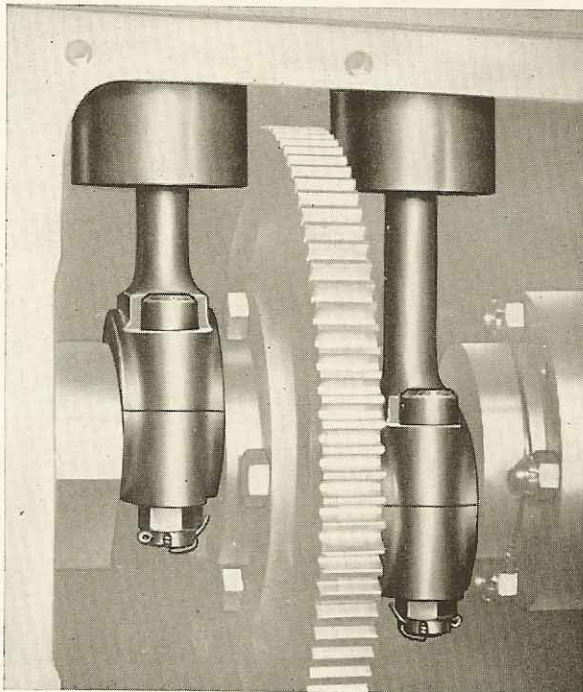
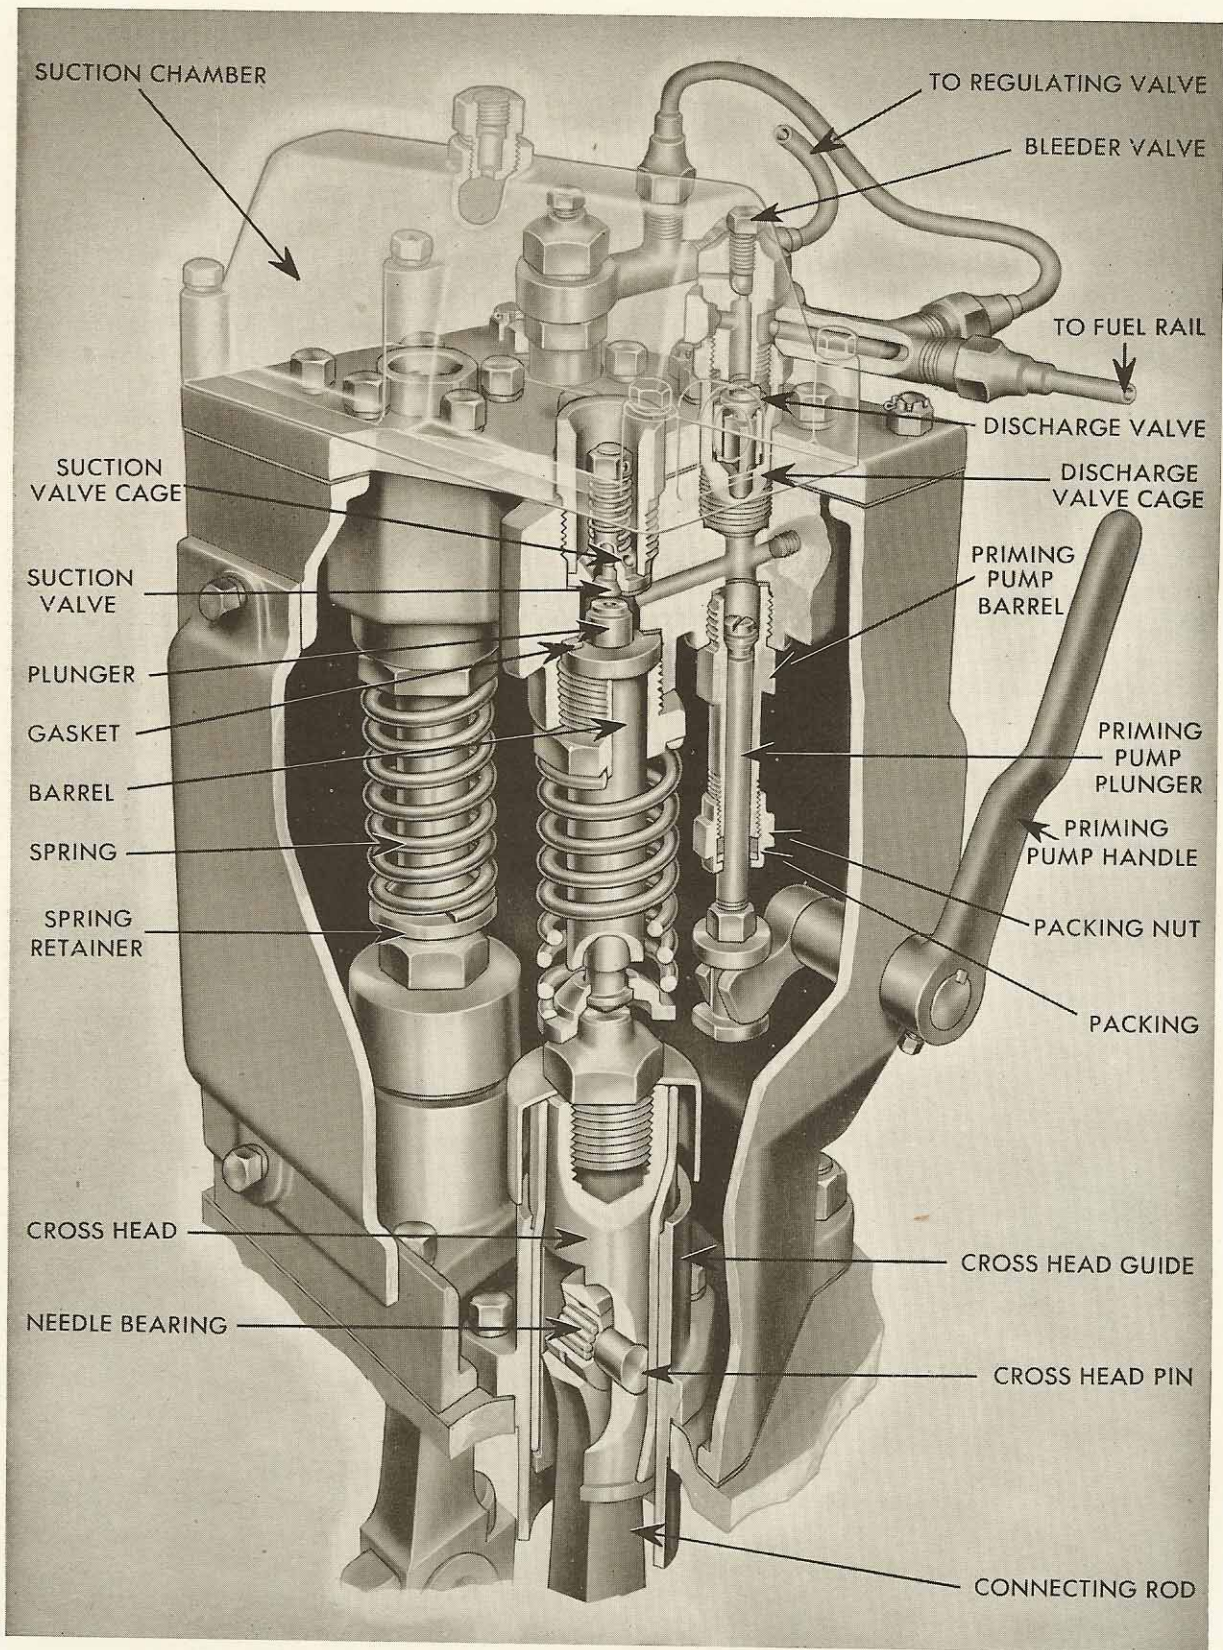

FIGURE 4-2
FIGURE 4-3
5. HIGH-PRESSURE FUEL PUMP: The after end of the engine camshaft has two cranks shown in Figure 4-2, which drive the two plungers of the high-pressure fuel pump. These two drives are lubricated by a passage drilled from the after camshaft bearing. This pump is really two pumps, each taking fuel from a suction chamber common to both, and pumping it into one discharge line. The construction of one half of the double pump is shown in Figure 4-3.
7. HAND-PRIMING PUMP: There are times when fuel pressure must be built up by hand: (1) in starting the engine after a long stop, (2) timing the spray valves, and (3) testing spray valves. One unit of the pump (the half shown in Figure 4-3) has a hand-priming plunger that can be operated by a handle. Working this plunger up and down has the same effect as up and down strokes of the main plunger. When the hand-priming plunger is not in use, it rests on a seat, and the plunger head is ground to a tight fit in that seat to prevent leakage.